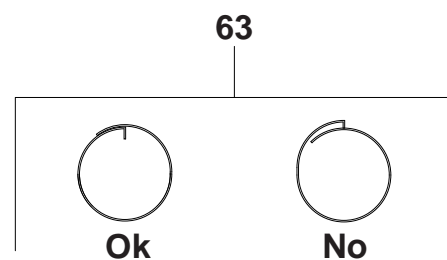

Fig. 9.1
9.1.2) Clean the cartridge pos.63 thoroughly, make sure there are no breakages and fit back in place (pay attention, as in fig.9.1)